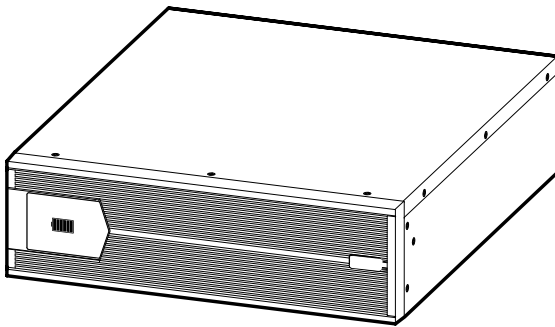

Figure2-3 Battery box appearance of 6kVA(L), 10kVA(B)
For 6kVA(L), 10kVA(B) model, the battery box can be provided according to use needs, corresponding battery box appearance is as shown in Figure2-3.